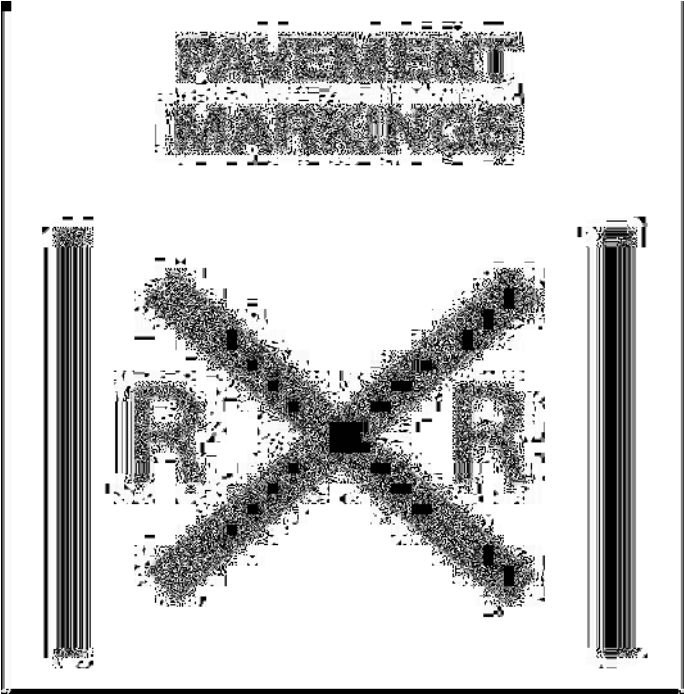

Figure 13.6
**Pavement Markings.** Pavement markings mean the same as the advance warning sign. They consist of an “X” with the letters “RR” and a no-passing marking on two-lane roads. See Figure 13.6.